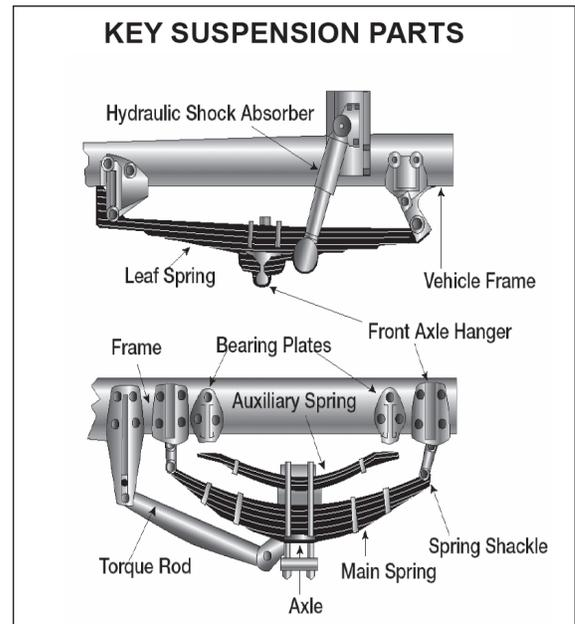

Figure 2.2
- Spring hangers that allow movement of axle from proper position. See *Figure 2.2*.